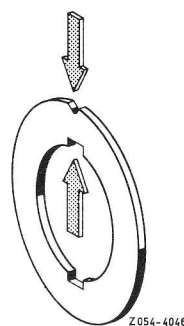

Fig. 4
**12** Mount compensating washer in such a manner that the keyway at the notch is in mesh with the woodruff key of the camshaft (refer to arrow in Fig. 4).